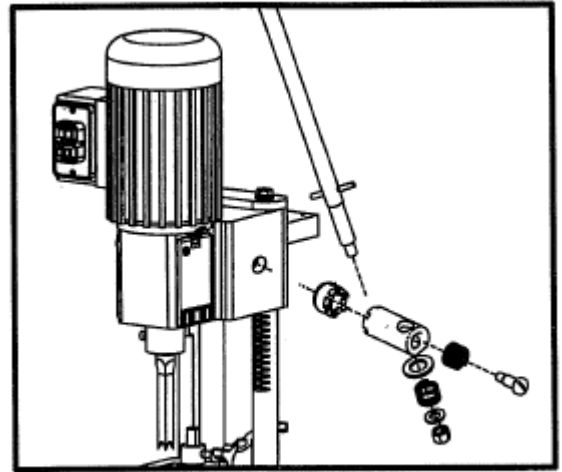

Fig.1
3. Secure the spring and clutch using the shouldered bolt. Insert the bolt and tighten. Refer to Fig. 1 for the layout of the parts.